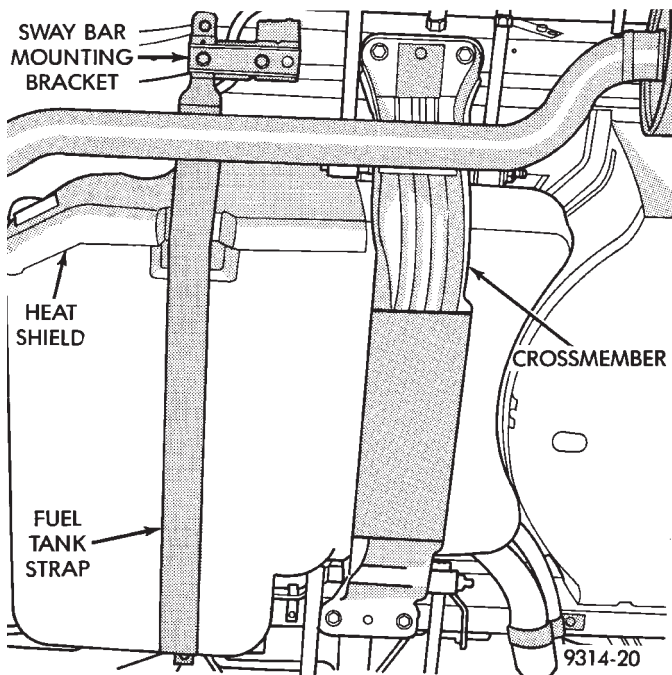

Fig. 47 Crossmember Bolts
- (12) Remove crossmember mounting bolts (Fig. 47).
- (15) Remove sway bar mounting brackets, heat shield, and fuel tank strap (Fig. 47).